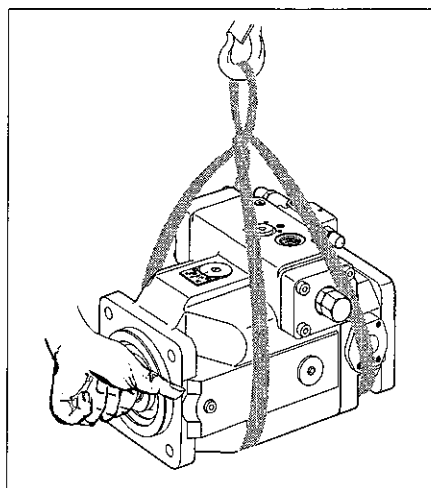

Fig. 20: Transport with lifting strap
- Place the lifting strap around the axial piston unit in such a way that it passes over neither the attachment parts (e.g. valves) nor such that the axial piston unit is hung from attachment parts (see Fig. 20).